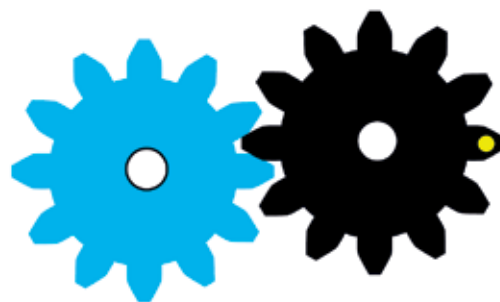

Figure 4
- (b) The black gear is turned clockwise until the yellow dot reaches the position shown in Figure 4. Draw arrows next to Figure 4 to show where the blue and red dots will be.